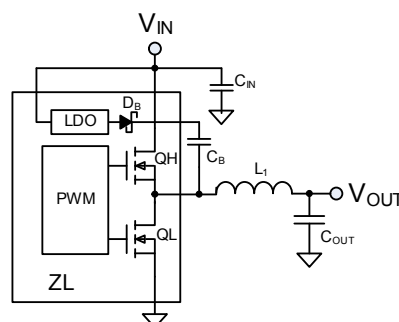

FIGURE 10. SYNCHRONOUS BUCK CONVERTER
Figure 10 illustrates the basic synchronous buck converter topology showing the primary power train components. This converter is also called a step-down converter, as the output voltage must always be lower than the input voltage.
The gate drive voltage for the high-side MOSFET driver is generated by a floating bootstrap capacitor, CB (see Figure 10). When the lower MOSFET (QL) is turned on, the SW node is pulled to ground and the capacitor is charged from the internal VR bias regulator through diode DB. When QL turns off and the upper MOSFET (QH) turns on, the SW node is pulled up to VDDP and the voltage on the bootstrap capacitor is boosted approximately 6.5V above VDDP to provide the necessary voltage to power the high-side driver. An internal Schottky diode is used with CB to help maximize the high-side drive supply voltage.